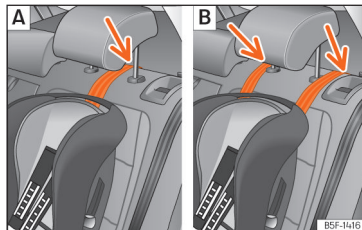

Fig. 42 Rear seats: adjustment and assembly according to the Top Tether belt.
- Position the belt under the headrest (according to the instructions of the seat itself, lift or remove the headrest if necessary) >>> Fig. 42.